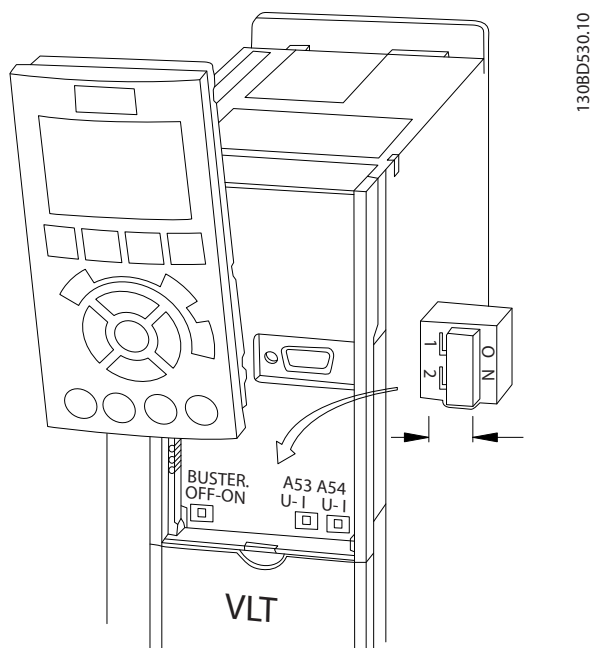

Figure 4.10 Location of Terminals 53 and 54 Switches
1. Remove the local control panel (see Figure 4.10).